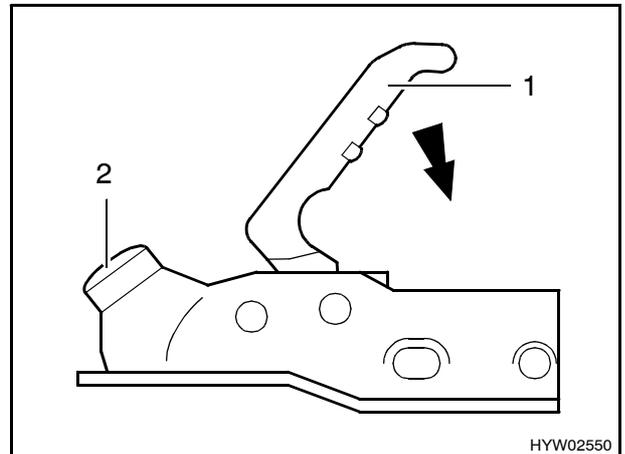

Fig. 1 AL-KO AK 160 caravan coupling
- Place the open caravan coupling (Fig. 1) on the towing vehicle caravan ball. The caravan coupling now locks automatically and audibly in place.
- In addition, push the coupling handle (Fig. 1,1) down with your hand (not with your foot). Closing and securing is carried out automatically.
- Conduct a visual inspection: the green point on the safety indicator (Fig. 1,2) must be visible.